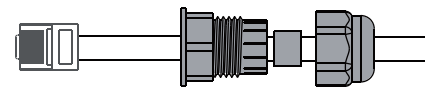

Figure 4.6-4 Remotely close the cable connection
Step 3-2 For Remote Shutdown. Run the cable through the steel plate, Then wire from pins 5 and 6. Table 4.6-1 describes the 6-pin port definition, Wiring is shown in Figure 4.6-4.